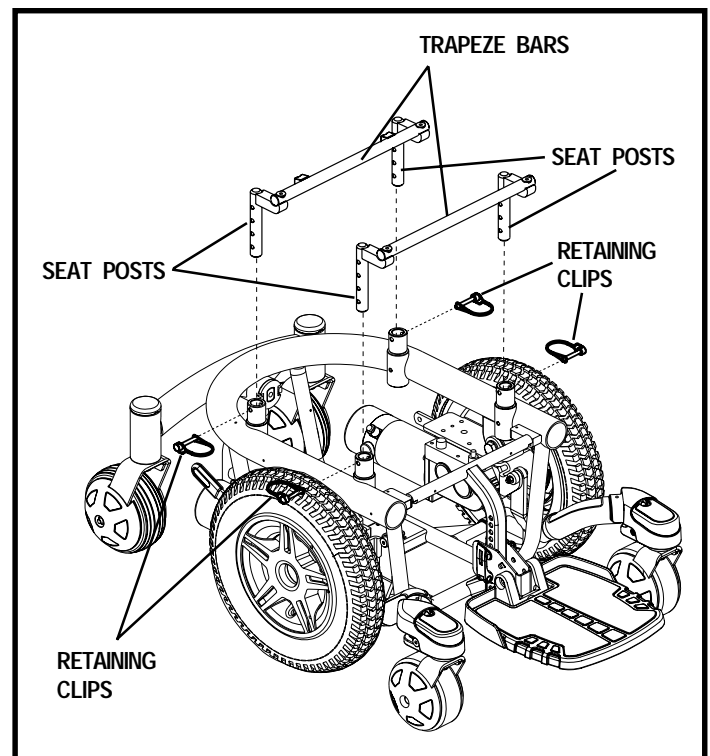

Figure 15. Trapeze Bar Adjustment
7. Loosen the screws that attach the trapeze bars to the seat posts. See figure 15.
8. Remove the retaining clips that secure the seat posts to the power base. See figure 15.